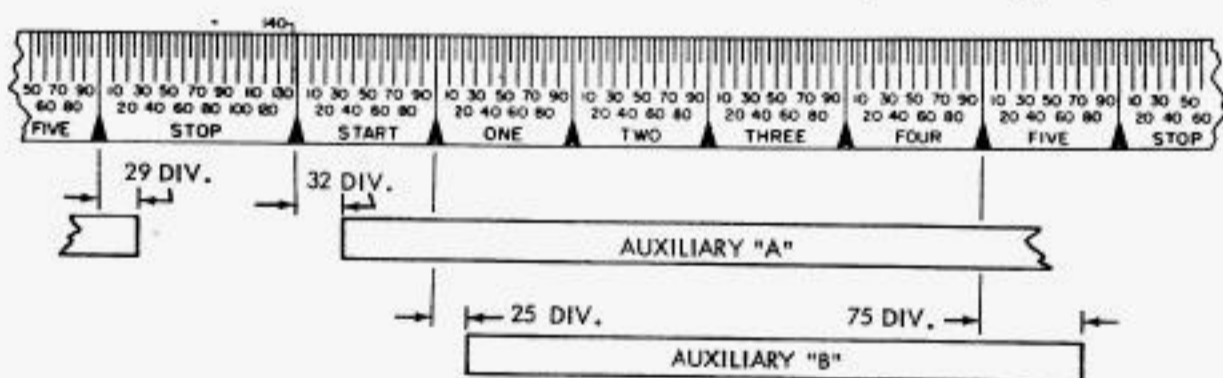

Fig. 3 — Pulse Length Requirements for Auxiliary Contacts A and B
- (1) Align the end of the stop pulse image with the 142 mark on the stop segment of the test-set scale.
- (2) The distributor auxiliary contact A shall **close** at 32 ± 15 divisions in the start pulse segment of the test-set scale and **open** at 29 ± 15 divisions in the stop pulse segment of the test-set scale. (See Fig. 3.)
- (3) The distributor auxiliary contact B shall **close** at 25 ± 15 divisions in the No. 1 pulse segment of the test-set scale and **open** at 75 ± 15 divisions in the No. 5 pulse segment of the test-set scale. (See Fig. 3.)